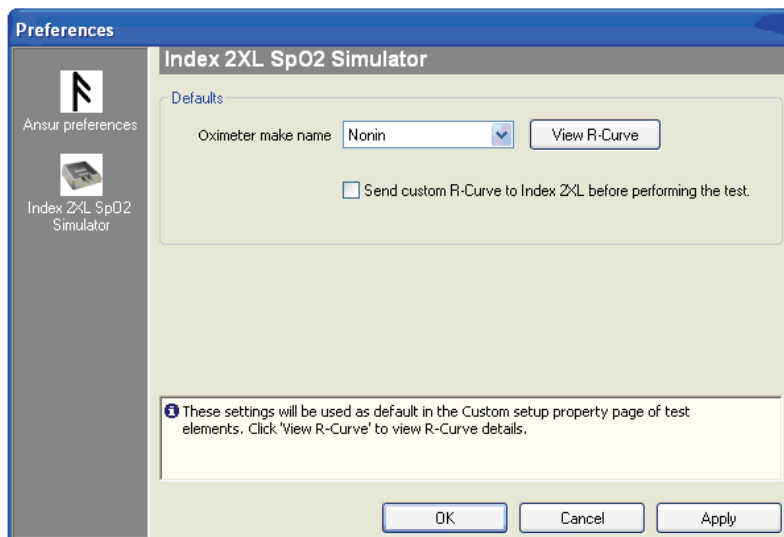

Figure 2-5. Index 2XL SpO2 Simulator Preferences
2. Click **Tools | Options** to display the **Preferences** window shown in Figure 2-5.